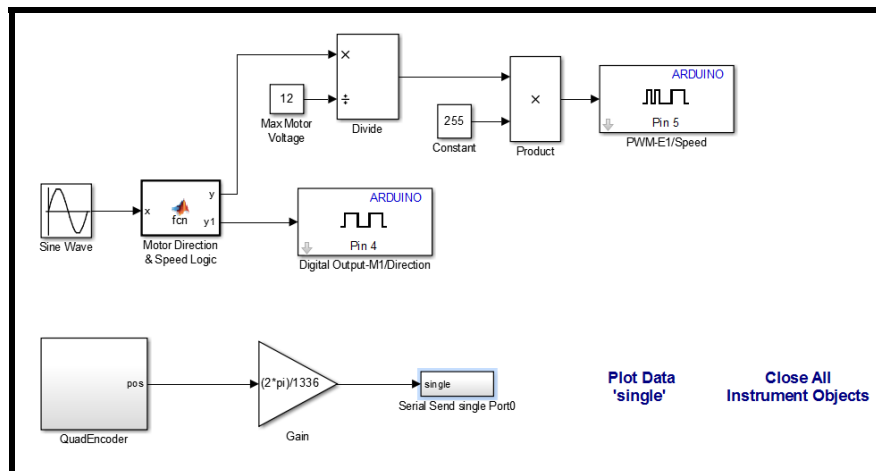

Figure 3.2: Existing Simulink Model
12. Open your *OpenLoopFreqResponse* model used in the *Open Loop Frequency Response* experiment, and save it as *ClosedLoopFreqResponse*. Your model should now resemble the model in Figure 3.2.